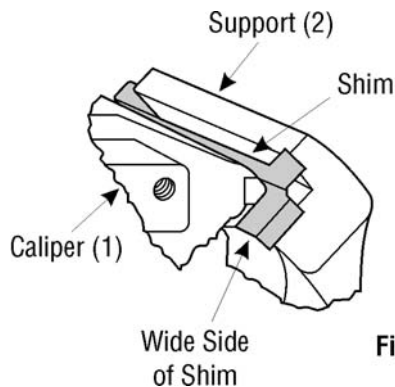

Figure 2
- A. Remove spring (3), retainer (4), and bolt (5).
- B. Lift forward end of caliper enough to provide clearance between the caliper and the support rail at (A) to permit installation of the shim as shown in figure 2.